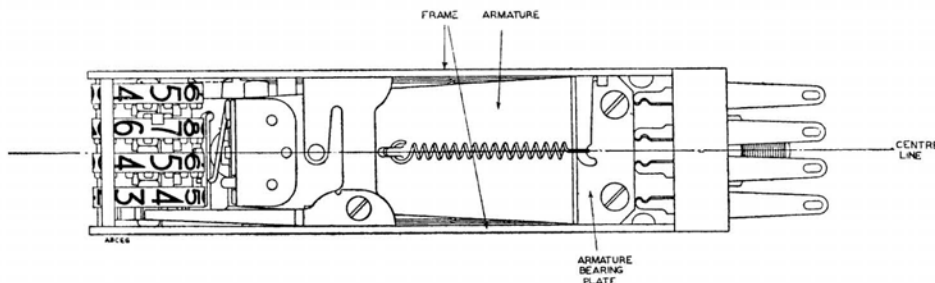
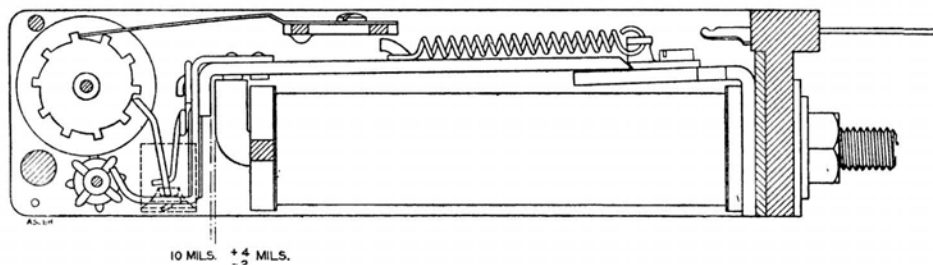

FIG. 4.—ARMATURE PARALLEL TO FRAME
FIG. 5.—ARMATURE CLEARANCE
6. Armature.—Adjust the armature so that its centre line is parallel with the frame (Fig. 4) and a clearance of 10 (+ 4 or —2) mils exists between the armature and the core with the armature (as shown in Fig. 5) operated manually. It will be found convenient when making this adjustment to insert a gauge of 10 mils between the armature and the core and to press the armature gently against the face of the gauge until it is felt to bed solidly ; then securely tighten the fixing screws. (Verify that the operating